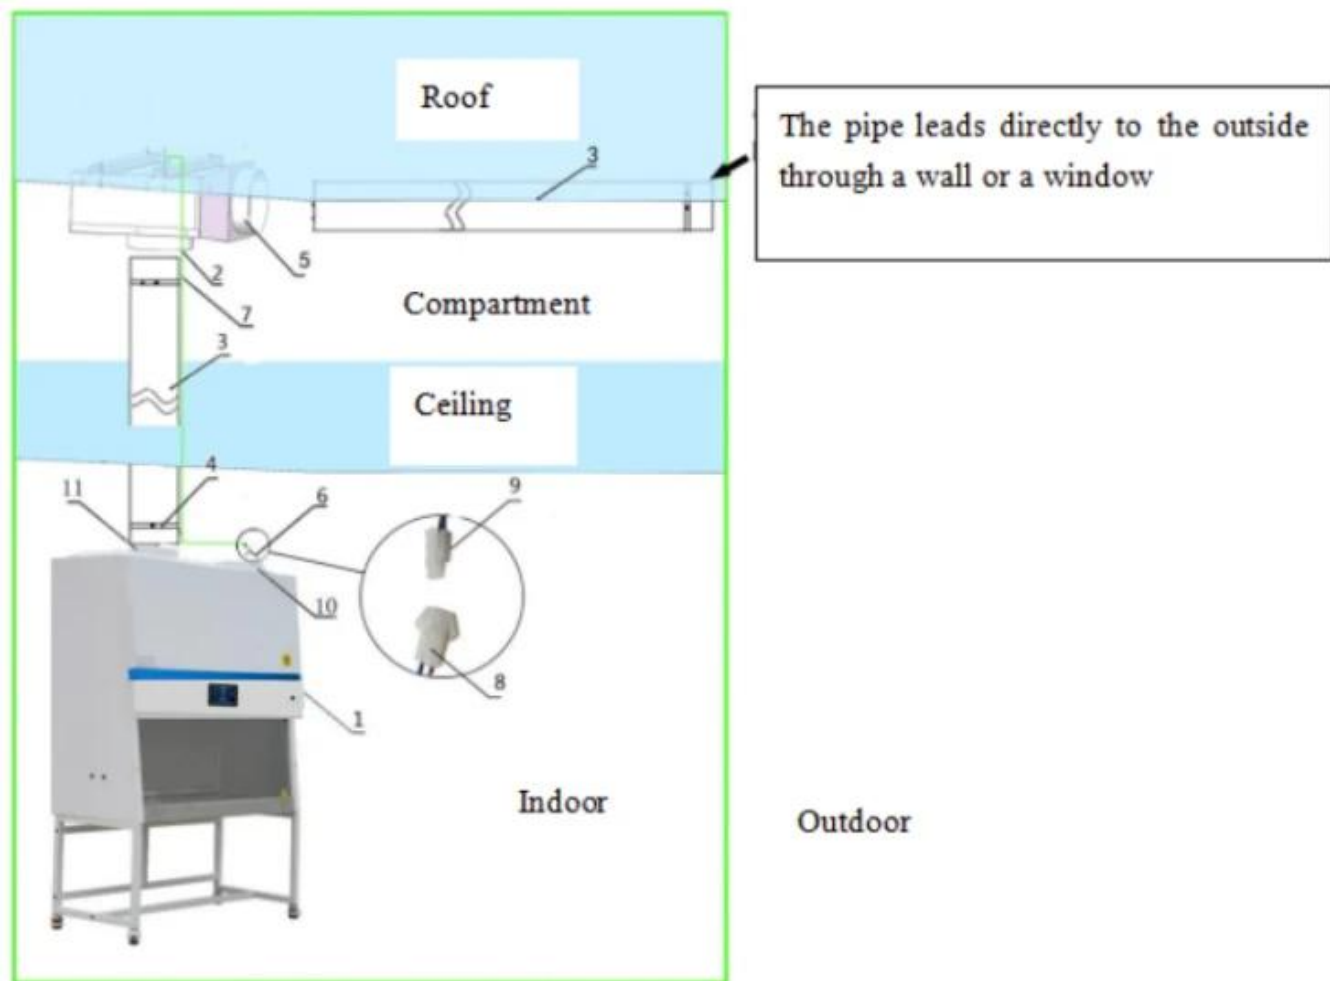

Fig 3
- c) The exhaust fan is installed in the interlayer between the ceiling and the floor, and the outer pipe passes through the interlayer between the ceiling and the floor, according to the distance between the ceiling and the floor. if the floor is not high, the floor can be touched by a ladder or the like. Can be directly hung upside down on the floor, if the floor is very high, the fan is hung on the floor. It is not easy to operate according to the FIG3. The outlet of the exhaust fan is discharged to the outside of the pipe. The pipe must not be bent or any object that obstructs the wind. The pipe should be straight and directly connected to the exhaust pipe of the building.
- (1) After connecting the host to the base, place it in the original position.
- (2) Put the expansion screw on the roof wall of the top of the safety cabinet to directly fix the external exhaust fan (to ensure safety, please operate by professional installers) (note that the exhaust fan outlet is facing downwards).
- (4) Pull out the pipe and pull one end into the air outlet of the safety cabinet, as shown in Figure 3/4, tighten the pipe pipe card.
- (5) Extend the other end of the pipe through the ceiling (requires opening), and insert the suction port of the external exhaust fan as shown in Figure 3/4 to fasten the pipe pipe clamp.
- (6) Route the control line of the external exhaust fan along the pipeline, and connect the outlet fan control line socket to the external exhaust fan control line at the top of the main unit.
- (7) Take out another pipe and pull it out, and insert one end into the exhaust fan outlet of the outer exhaust fan, as shown in Figure 3/4, tighten the pipe pipe clamp.
- (8) Connect the other end of the other pipe to the indoor ventilation system or directly to the outside through the partition wall and the partition window. The ventilation system needs to meet the corresponding air supply capacity required by the safety cabinet.